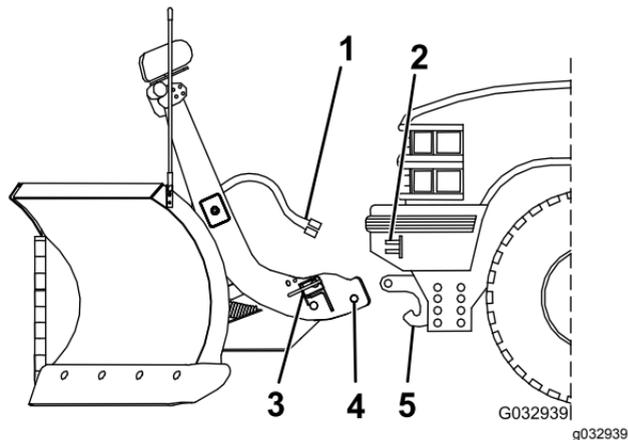

Figure 25
3. Line up the vehicle with the snowplow and slowly drive forward until the lower pin contacts the push-beam pin receiver (Figure 25).
- Remove the electrical-plug dust covers and connect the plow wire harness to the vehicle wire harness (Figure 25).